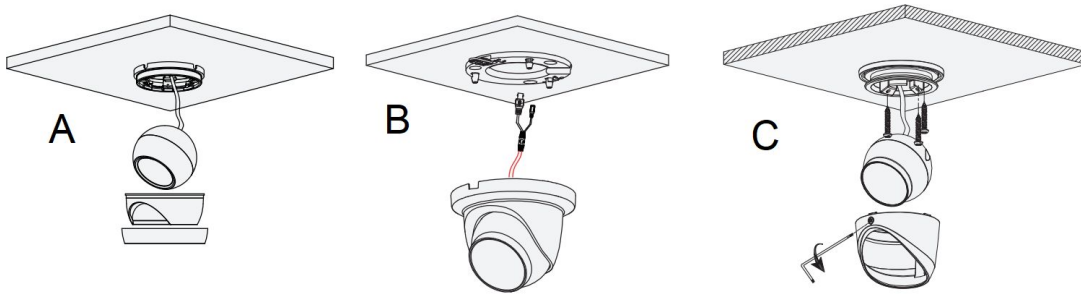

Figure 2-5
Step 5 Thread the cabling through the mounting surface if necessary and install the dome cover with the camera body to the base. See Figure 2-5 for examples.